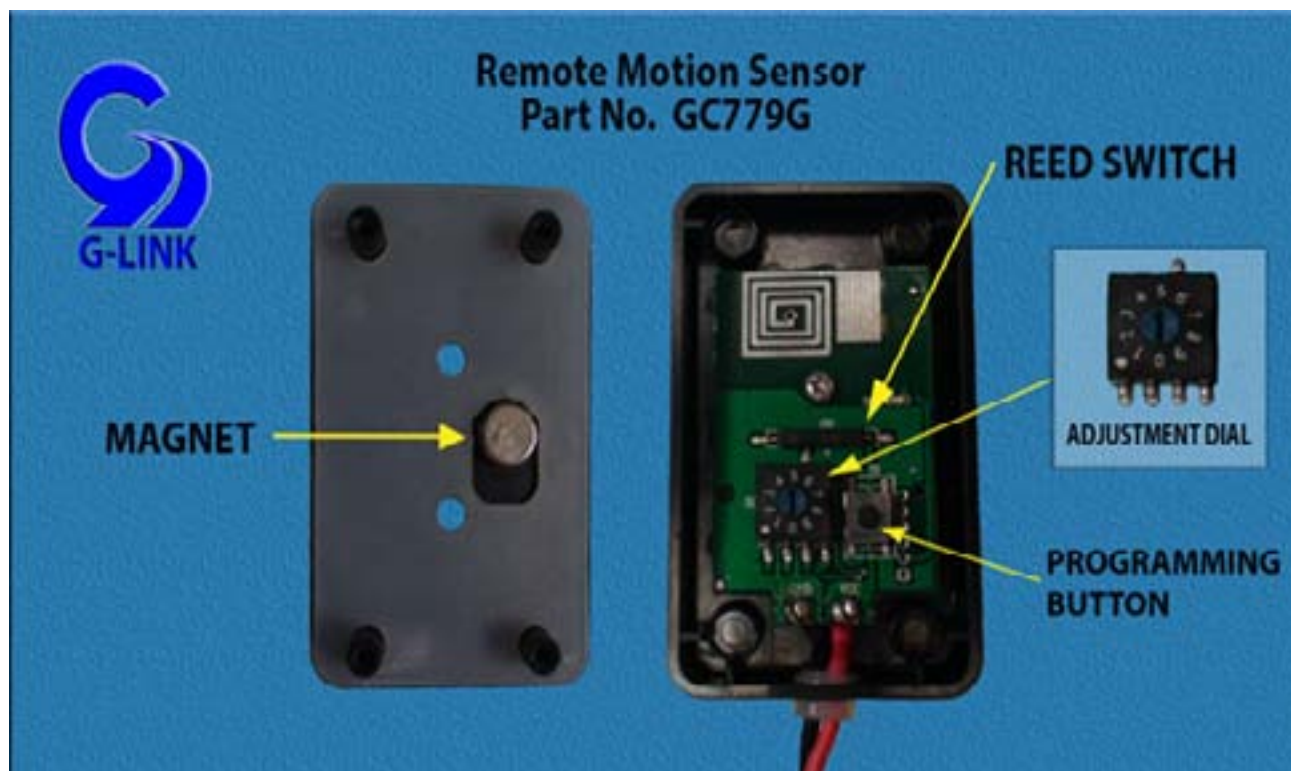

FIGURE 6
2. Move the Adjustment Dial to the number 5 position (see Figure 6).
6. Then press the PROGRAM button on the Remote Motion Sensor (GC779G (See Figure 6). The Purple LED light will flash confirming sequence complete.
7. Press the PROGRAM button again (See Figure 6). The Awning will retract.
3. Move the Adjustment Dial to position ZERO (0) (See Figure 6)..
2. Move the Adjustment Dial of the Remote Motion Sensor to position 5 (See Figure 6).
c) Then press the PROGRAM button (See Figure 6) on the Remote Motion Sensor (GC779G). The Purple LED light will flash confirming sequence complete.